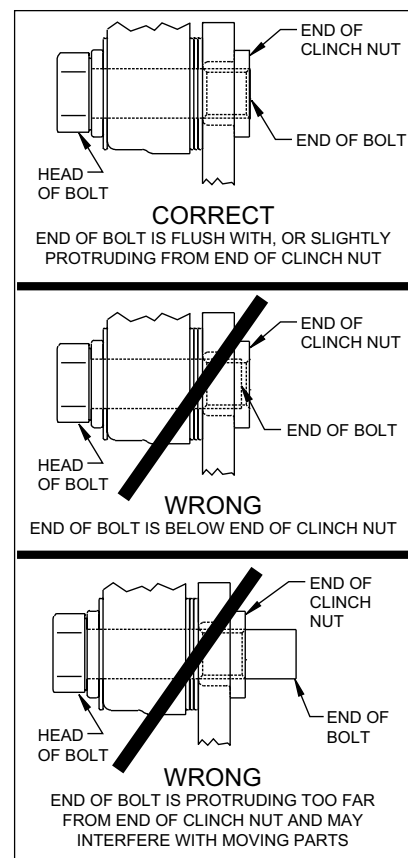

Figure 4.
CAUTION: All mounting bolts must fully engage clinch nuts. Be sure to check that all bolts are either flush or protruding through flanged side of clinch nut after shimming, Figure 4.
- Install the dust cap (18) onto the hub (9). Friction created by the o-ring (17) on the dust cap (18) keeps it from unscrewing. The O.D. of the existing spindle washer may be larger than the I.D. of the dust cap (18) which may allow the washer to contact the dust cap (18).
- **NOTE:** Please reference the caution statement at the beginning of the assembly instructions. Mount the caliper (19) onto the caliper mounting bracket (1) using two bolts (21) and two lock washers (22). Finger tighten. View the rotor (13) through the top of the caliper (19). The rotor (13) should be aligned in the center of the caliper (19). If not, loosen the two bolts (21) and adjust the caliper (19) by using 0.032 inch thick shim washers (22). The shim washers (22) should be placed between the caliper (19) and the caliper mounting bracket (1). Finger tighten and recheck alignment. Add as many shim washers (22) as necessary to achieve the correct alignment. **NOTE:** The end of the bolt must be flush with or slightly protruding from the head of the clinch nut. See Figure 4. Place spare shims (22) between washer and caliper mounting ear to achieve the proper mounting fastener configuration. Always use the same amount of shims on both the top and bottom caliper mounting bolts (21). Loosen the two bolts (21) and apply red *Loctite*® 271 to bolt threads (21) and torque to 40 ft-lb. Safety wire the two bolts (21).
- Install the disc brake pads (23) and secure using cotter pin (24). Repeat this procedure for the other wheel.